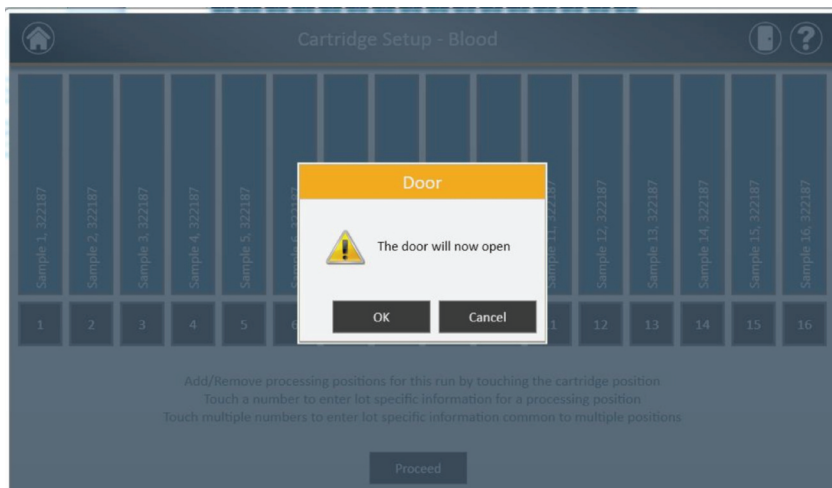

Figure 50. Door open screen. Informs the user that the Maxwell® CSC Instrument door will open.
- After all desired information has been entered for the cartridges and samples that will be processed touch the **Proceed** button to move to the Door screen (Figure 50). Press the **OK** button to open the Maxwell® CSC Instrument door.